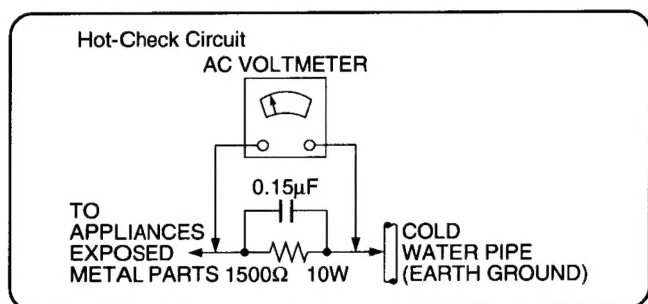

Figure 1
LEAKAGE CURRENT HOT CHECK (See Figure 1.)
2. Connect a $1.5\text{k}\Omega$, 10W resistor, in parallel with a $0.15\mu\text{F}$ capacitor, between each exposed metallic part on the set and a good earth ground such as a water pipe, as shown in Figure 1.